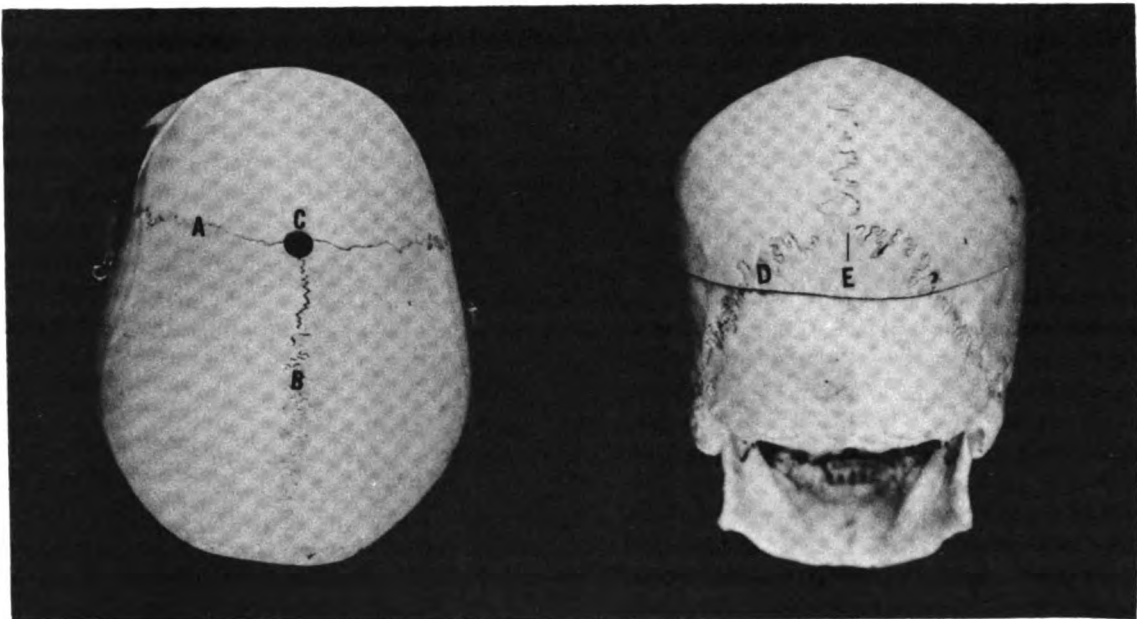

Figure 4-31 Cranial Sutures
Cranial Sutures. As you know already the articulations of the skull are immovable and are of the synarthrosis type of joint. These articulations are called sutures in the skull. The suture between the frontal and the parietal bones is known as the CORONAL SUTURE (A). The suture that extends down the middle of the head between the parietal bones is the MID-SAGITTAL SUTURE (B). The point where the mid-sagittal and coronal sutures meet is known as the BREGMA (C). The suture dividing the parietals from the occipital bone is called the LAMDOIDAL SUTURE (D). The point where the mid-sagittal suture and the lamdoidal suture meet is known as the LAMBDA (E) as shown in Figure 4-31.